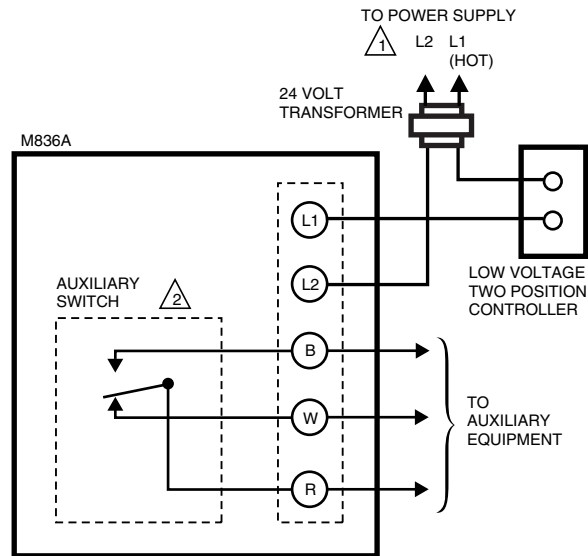

Fig. 10. Typical wiring diagram for M836 Damper Motor.
3. Insert a narrow bladed common-point screwdriver in a slot in the switch cam (white plastic) located near the center of the motor. Refer to Fig. 10. Each slot in the cam equals approximately 20 degrees of motor rotation.